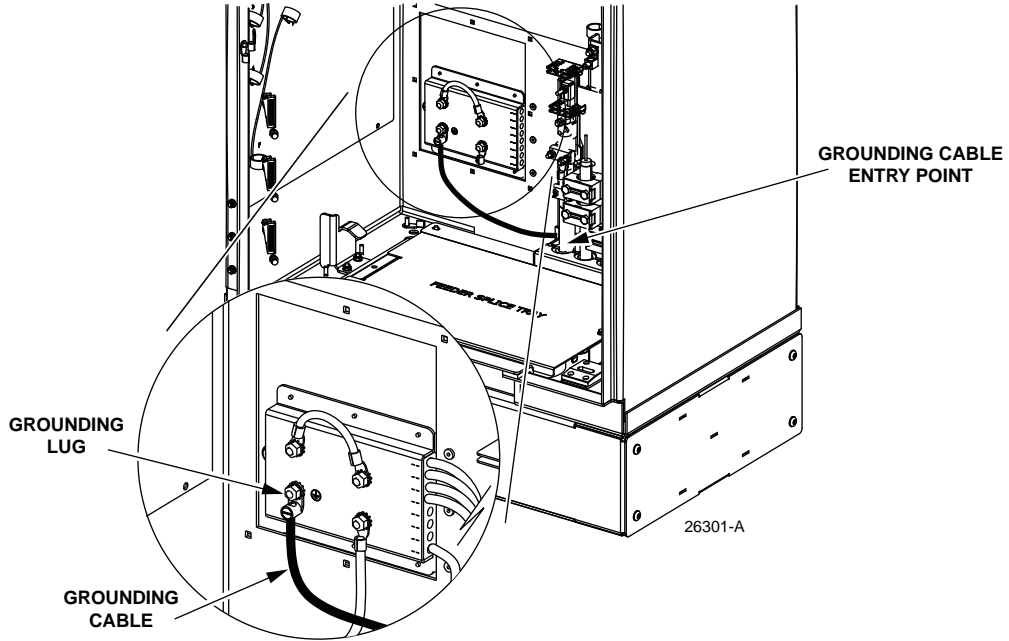

Figure 16. Grounding Wire Connection To Cabinet
2. Working through the access openings in the base of the cabinet, insert the grounding wire through the flexible membrane at the point indicated in Figure 16.